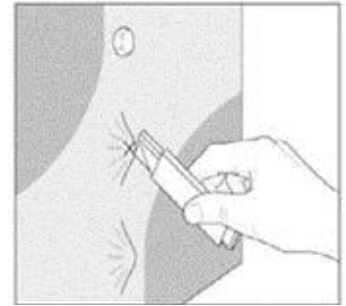

Figure 13. Cutting Around Bolts
2. Cut an X through the film directly over the bolt. See Figure 13.